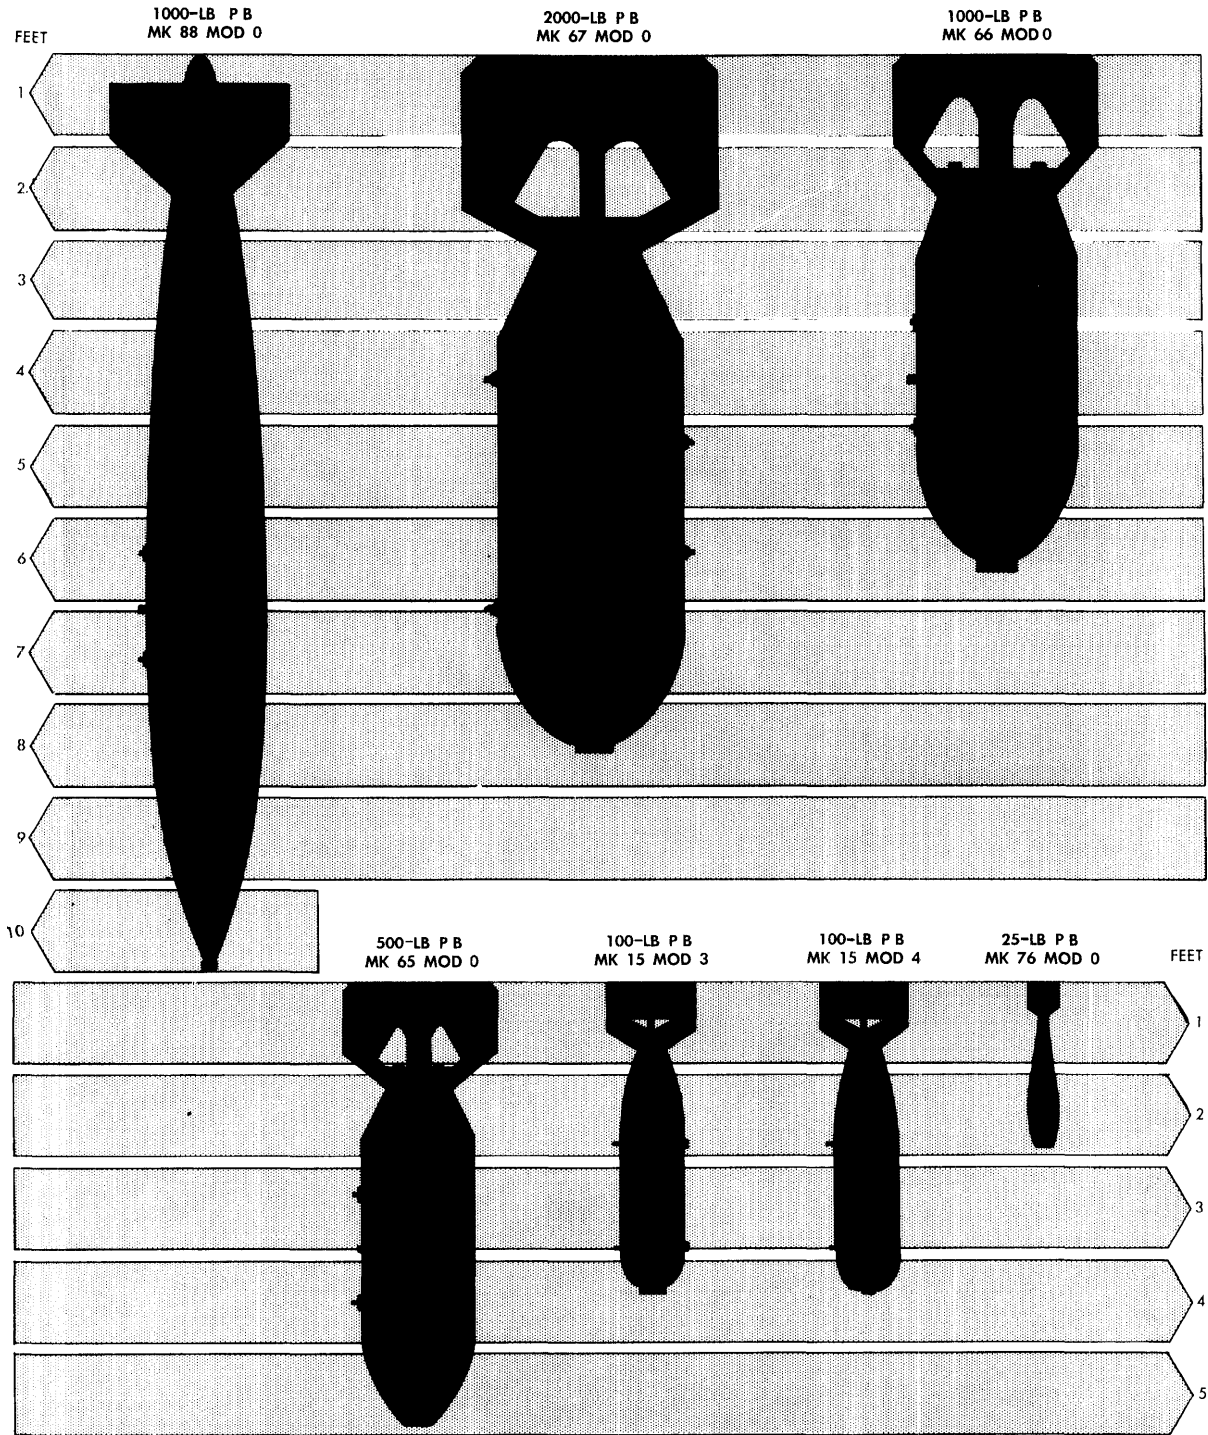

Figure 11.1—Practice Bombs, Comparative Size.
Practice bombs (P), figure 11.1, are similar to service bombs in appearance and flight characteristics. Fin assemblies usually are the same in basic construction as the fins used in service bombs. A few minor changes are some times made to the fin assemblies to accommodate signals and facilitate installation on the bomb body. The differences are in larger fin sleeve openings and additional holes for securing the fin to the bomb body.